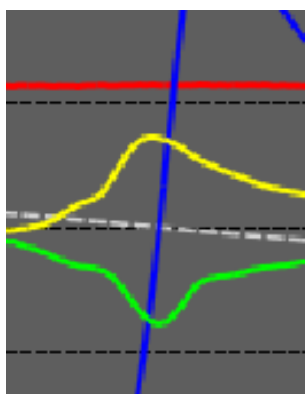

Figure 3-15 Dotted and blue line cross near horizontal axis
20. Turn the adjustment hand screw until both the gray dotted **and** the blue line cross the horizontal (0V) axis at the same point, see Figure 3-15.